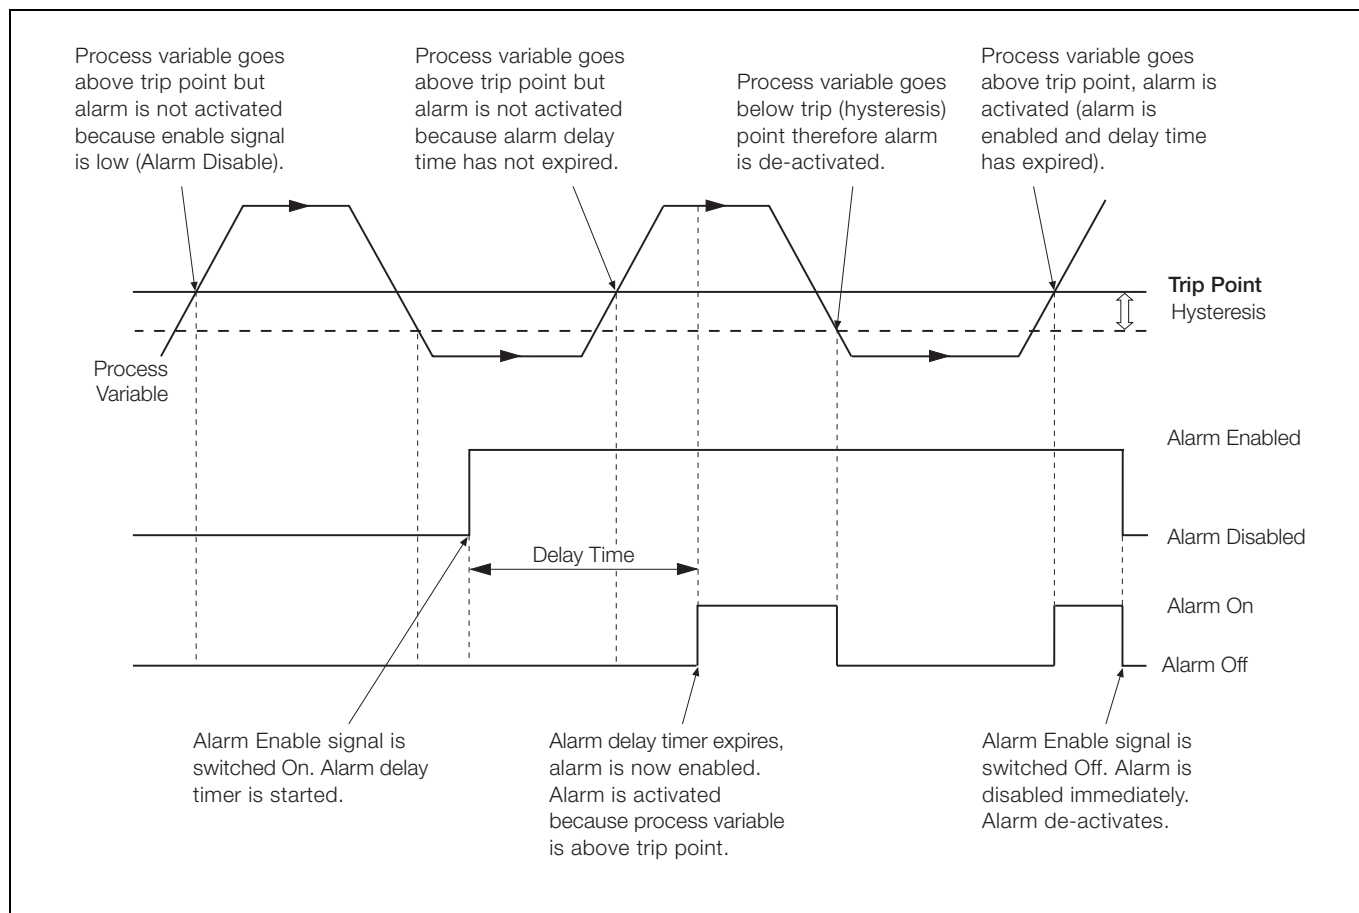

Fig. 4.16 Delayed High/Low Process Alarms
- Delayed high/low process – see Fig. 4.16, page 80
Note. Delayed process alarms only – see Fig. 4.16.
Note. For Delayed Process alarm operation, see Fig. 4.16, page 80.